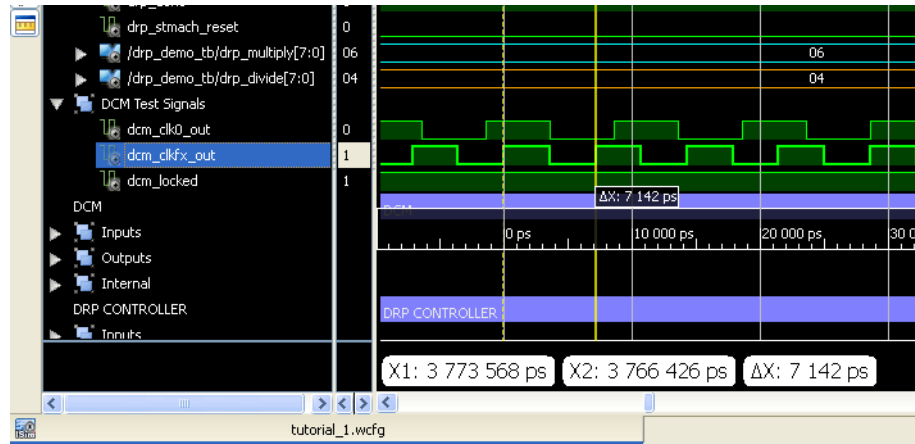

Figure 4-42: Floating Ruler Feature
**Note:** Use the Floating Ruler  feature (available from the wave window toolbar) to display a hovering ruler over the wave configuration. This feature is available when performing a time measurement using cursors between two endpoints. The zero (0 ps) on the ruler is placed at the first time endpoint. This feature is useful when making multiple time measurements with respect to the first endpoint (Figure 4-42).